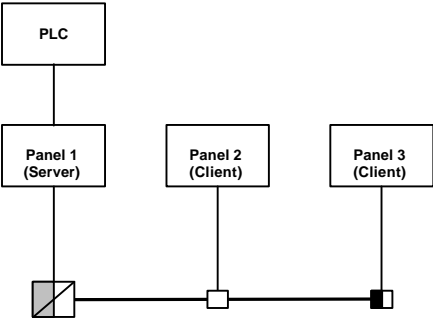

Figure 13-1
- The configuration shown in Figure 13-1 allows many panels to access data from a single controller via a panel acting as the single Server. The client panels can perform all of the normal operations as if they were connected directly to the controller, including: displaying of variables, modifying of variables, handling of Recipes, handling of the Reserved Data Area, etc.